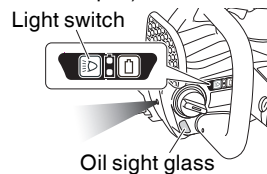

Fig. 15
- When you press the light switch on the switch panel, an LED light turns on and the internal light improves visibility. (Fig. 15) (Check this in step 6.)
6. Checking if the LED light works (Fig. 15)